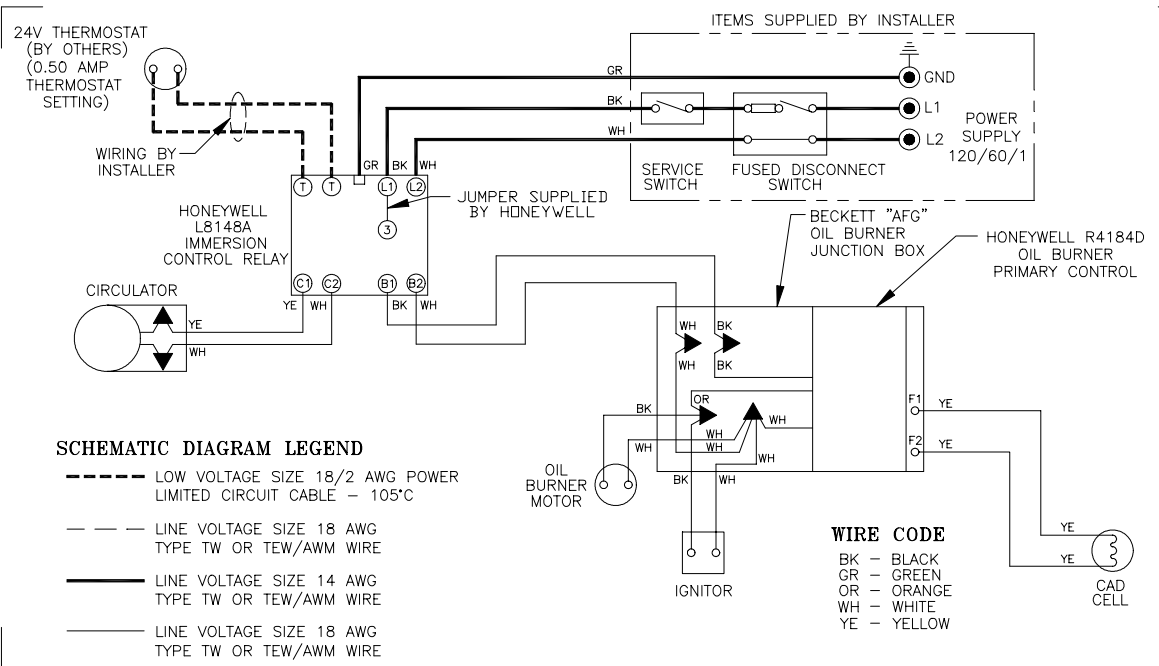

Figure 14: "RSAL" Wiring Less Tankless, Single Circulator
2. Mount the aquastat control onto the immersion well. Wire the control according to Figure 14 or 15, in the Electrical and Sequence of Operation Section.
3. Wiring should conform to Figure 14 and/or 15.
3. Use armored cable (BX) over all exposed line voltage wiring.
5. Single Zone System – Refer to Figure 14 or 15 of
this manual for the electrical diagram for this type of system. Connect the system circulator wire leads to the proper locations on the Aquastat control, L8124C/L8148A. See Figure 14 or 15. Connect the thermostat to the ‘T-T’ terminals on the L8124C/L8148A control. Set thermostat heat anticipator settings to 0.60 amps.